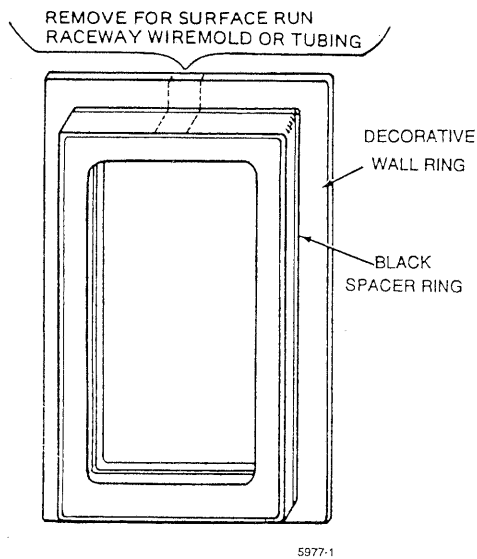

Fig. 2. Decorative Wall Ring and Spacer Ring Modification for Surface Run Tubing.
2. If the pneumatic tubing is surface run, cut away a portion of the decorative wall ring and spacer ring (Fig. 2).